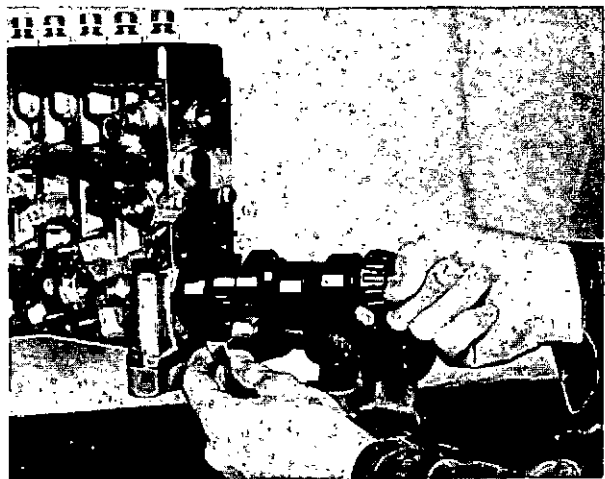

Fig. 6 Removing camshaft.
8. Withdraw the camshaft (fig. 6).